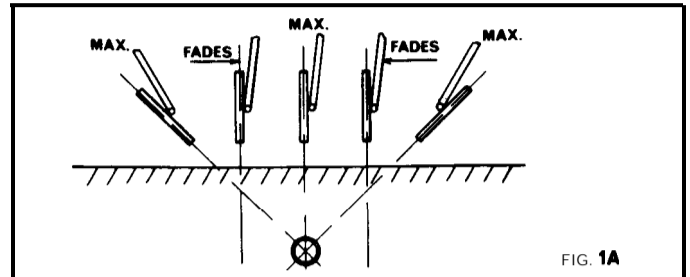

FIG. 1A
4.1 The *loudest* (MAXIMUM POSITION) signal is heard when the edge of the antenna disc points directly at the conductor and the disc is *parallel* with the conductor. (Figure 1A) The signal fades as the disc moves away from this position. If the disc is exactly at *right angles* to the conductor, no signal will be heard.. (Figure 1 B)